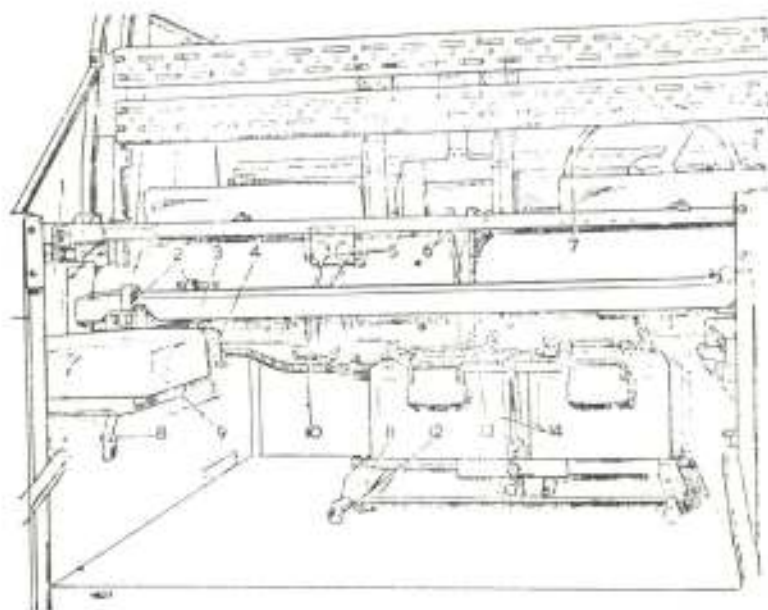

Fig. 118 Rear body compartment
338. Each set of batteries is secured in the carrier by a centrally disposed swivel bolt with clamp plate and wing nut. The clamp plate locates on the rear top edges of the batteries (Fig. 118 (13)).
340. Protection of the batteries is afforded by a box-shaped steel cover, having its front and bottom sides open. The top front edge of the cover is located by two angle brackets fixed to the back of the driver's compartment seat rest. The cover is secured at its rear end by means of two spring-loaded fasteners (Fig. 118 (12)), bolted to the floor plate, which engage hooks fixed to the cover.